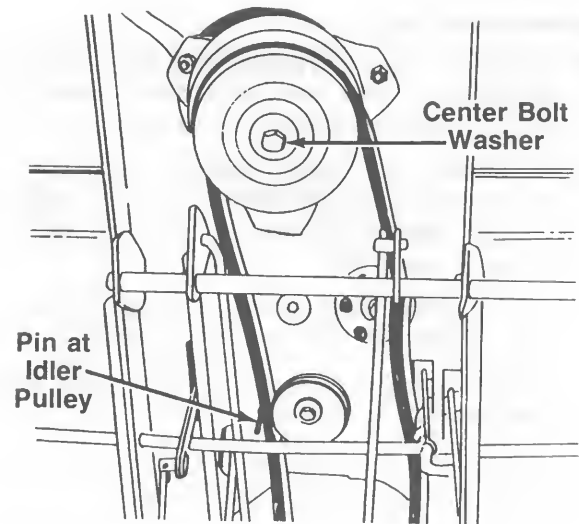

FIGURE 28.—Model 784G
7. Loosen the pin at the idler pulley, shown in figure 28.